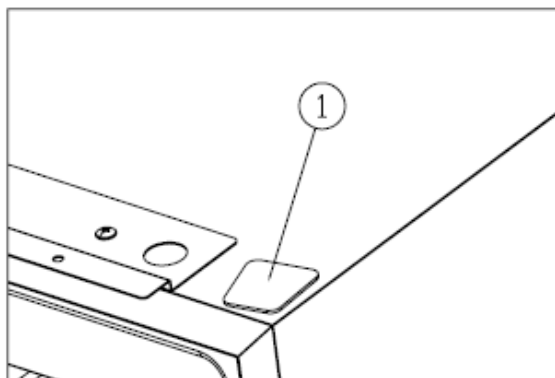

Figure 4
- ✦ Install the germinal lid ①. [Figure 4]